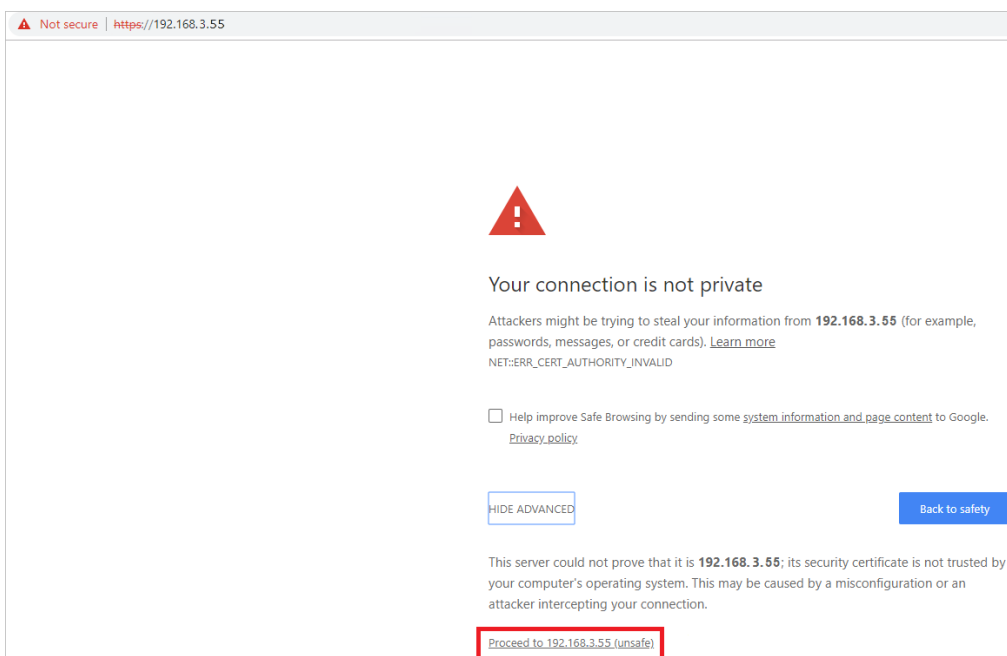

Figure 39
6. A message as in Figure 39 will be shown; click 'Proceed to...'